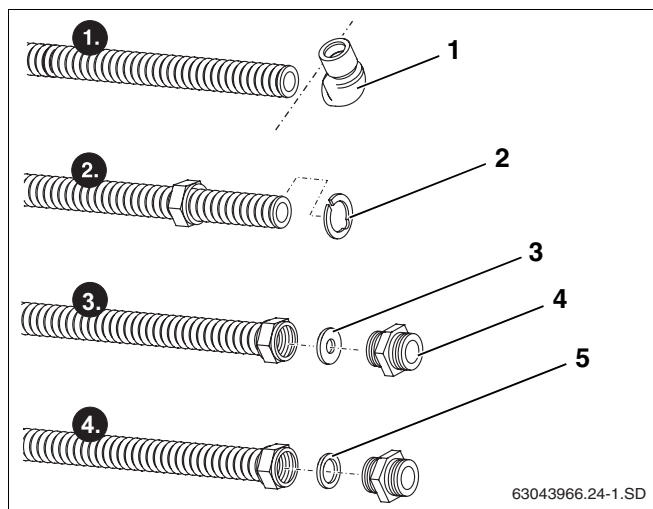

Fig. 57 Preparing the connection pipe
- ▶ Cut elbow (Fig. 57, **Item 1**) from connection pipe using pipe cutter.
- ▶ Place clamping disc (Fig. 57, **Item 2**) behind the first rib and press together. The clamping disc must lie evenly on the collar of the nut.
- ▶ Put large diameter washer (Fig. 57, **Item 3**) into the union nut in front of the cut surface of the connection pipe.
- ▶ Firmly screw double threaded fitting (Fig. 57, **Item 4**) into union nut, so that a flat sealing surface is created on the connection pipe.
- ▶ Insert gasket (Fig. 57, **Item 5**) and screw in double threaded fitting.